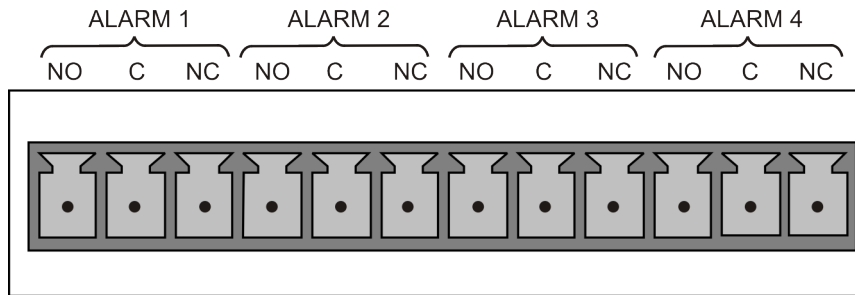

Figure 2-11. Concentration Alarm Relay
The concentration alarm option provides four (4) “dry contact” relays on the rear panel (Figure 2-11) , each with 3 pins: Common (C), Normally Open (NO), and Normally Closed (NC). The Relays can be mapped to reflect various internal instrument conditions and states. ConFigure these outputs through the Setup>Digital Outputs menu (Section 2.5.7) under MB Relay [1 thru 4].